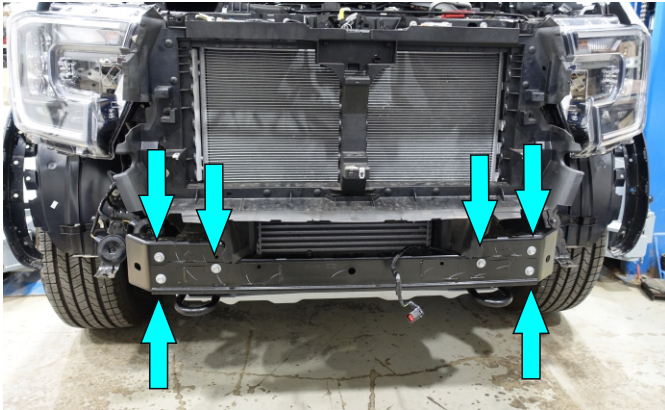

Fig.19
18. Unscrew bolts and remove factory crossmember (fig. 19).